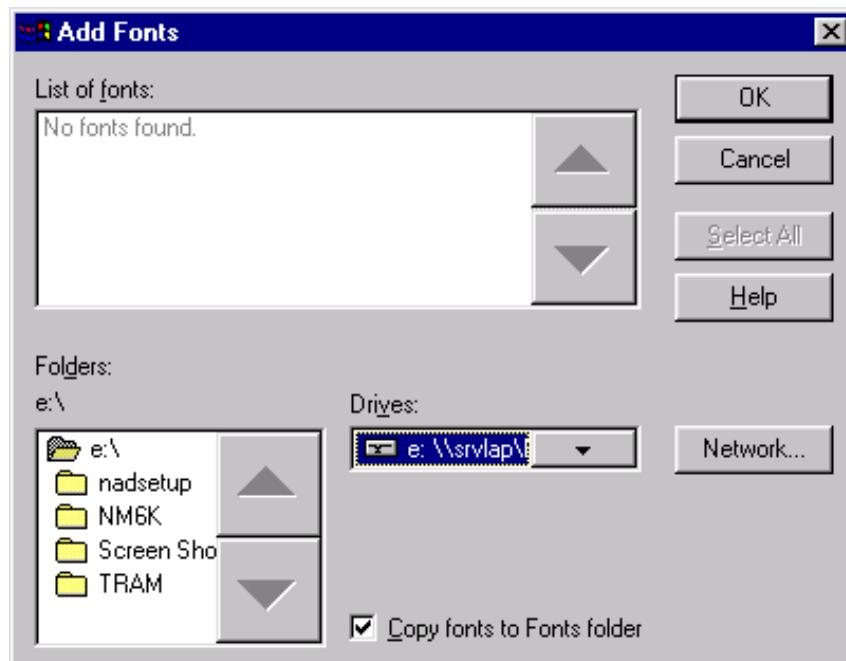

FIGURE 28. Add Fonts Dialog
- 8.52 Touch the 'Drives' drop down menu. Use the arrow key on the keyboard connected to the NM6000 to select directory folder 'e:\\\\srvlap\\\\NAD Software', then press Enter. See Figure 28.